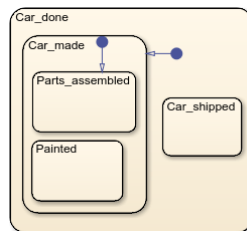

Figure 1: Hierarchical FSM
- Model Settings: Set the Solver type to “Fixed-step”, “discrete (no continuous states)”, and fixed step size to 0.1 (see Fig.1)